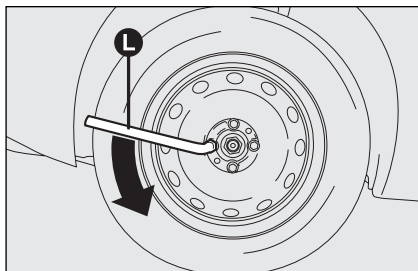

fig. 6
- using the wrench provided **L-fig. 6** loosen the fastening bolts by about one turn; if the car is fitted with alloy rims, shake the car to facilitate removing this rim from the wheel hub;